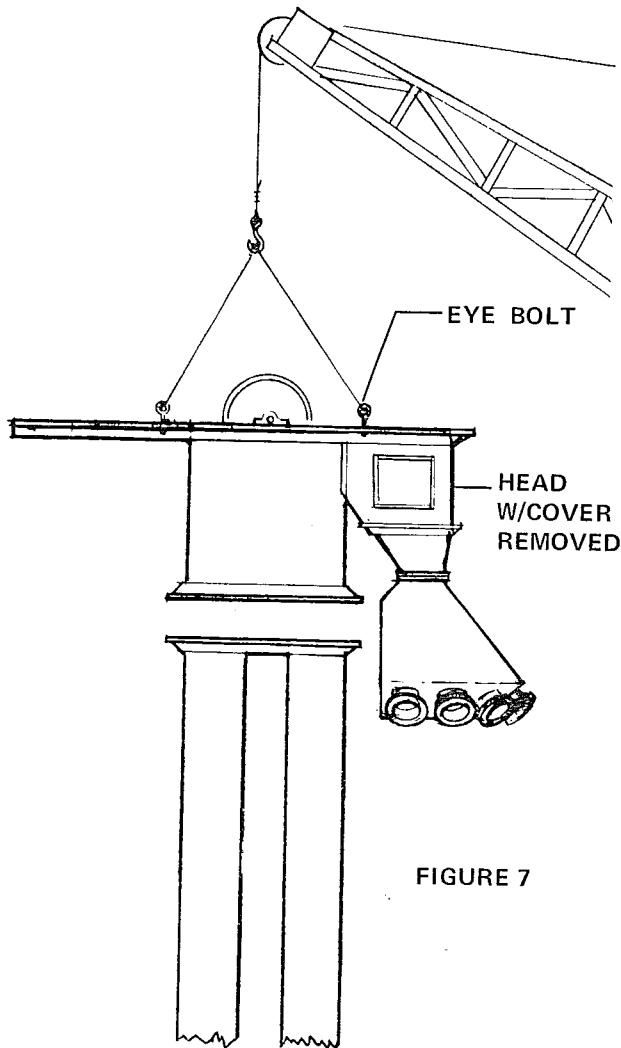

FIGURE 7
**NOTE:** When raising the assembled parts, use eye bolts and cables heavy enough to carry the entire weight. The bottom end must not be dragged across the ground, as this can damage the flanges. (See Figure 7)
Continue raising and assembling legging sections, ladder and cage sections, and guy brackets (see Figure 7) until the complete height of the elevator has been attained.